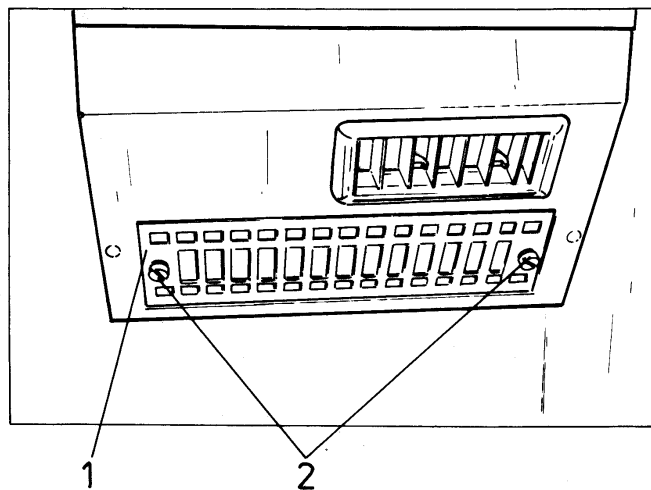

Fig. 5.50. Inside Filter
5.22.1. INSIDE FILTER (Fig. 5.50)